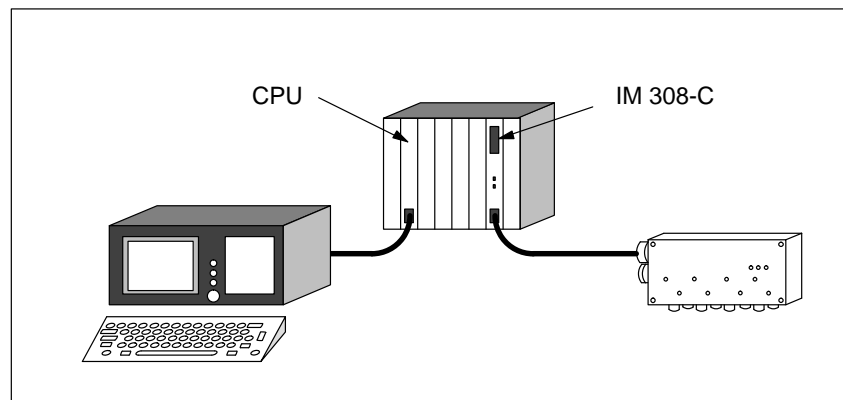

Figure 6-2 Using the FB IM308C to assign a PROFIBUS address to a DP slave
3. Connect the programmer to the AS 511 interface of the CPU and set up a configuration as shown in Fig. 6-2 :